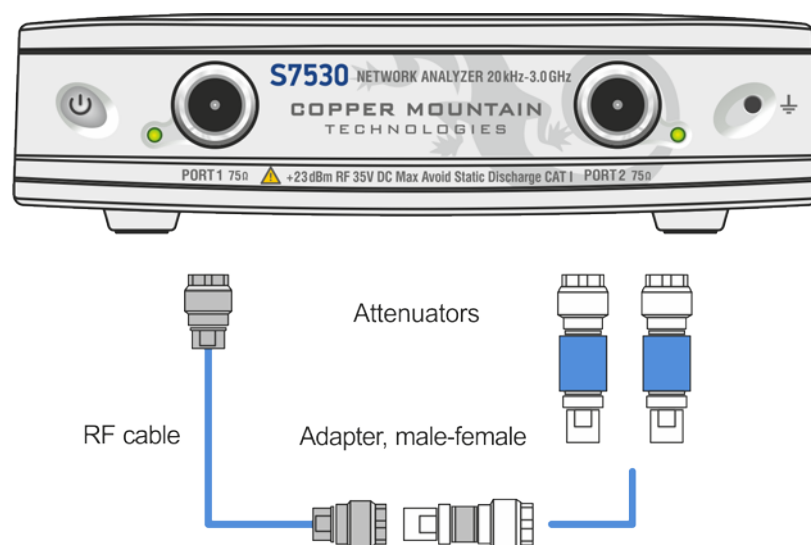

Figure 3 – Transmission coefficient accuracy measurement setup.
- 6.3.5.6 Connect up the measurement setup as shown in Figure 3. Do not connect the attenuators. Use the torque wrench to tighten the RF cable connectors and adapter. The RF cable should be a phase and amplitude stable, test-grade cable.